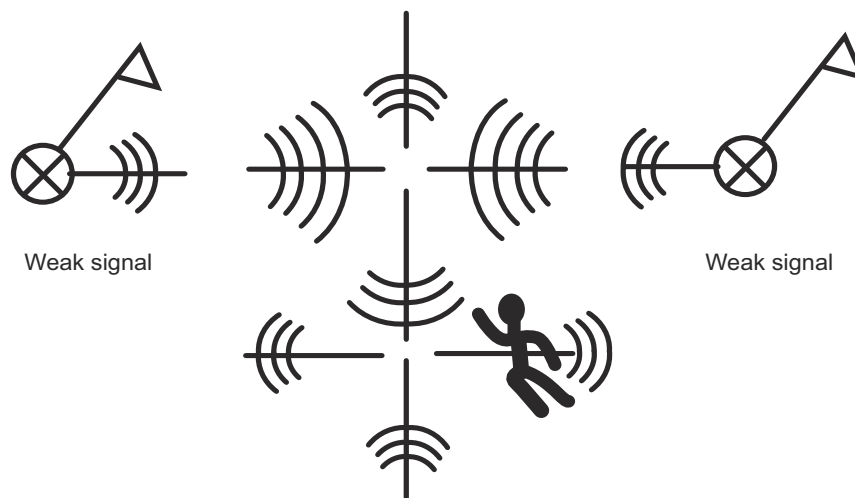

Figure 1-14. Pinpointing Location.
- Repeat this process until the exact location is found and begin probing and/or digging. See figure 1-14.